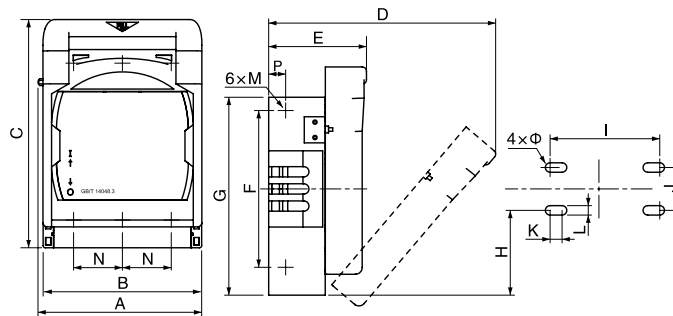

Fig. 1 HR17N/D series fixed type installation and outline dimensions drawing
6.1 Installation and outline dimensions for fixed type see Table 2 and Fig. 1